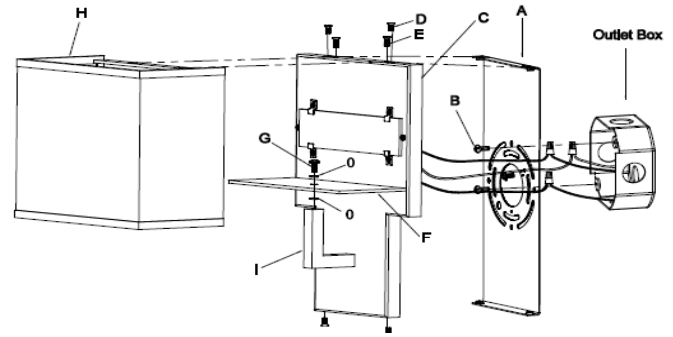

Fig.2
CONNECTING THE WIRES (FIG. 2)
4. At this point, connect the electrical wires as shown in Fig. 2, making sure that all wire connectors are secured. If your outlet has a ground wire (green or bare copper), connect the fixtures ground wire to it. Otherwise, connect the fixture ground wire directly to the mounting plate (A) using the green screw provided. After wires are connected, tuck them carefully inside the junction box.
5. Align fixture back plate (C) onto mounting back plate (A) and secure with screws (D) (Size: 'M4*8MM).